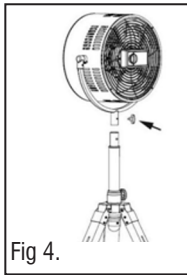

Fig 4.
3.2.2.1. Remove the locking knob from the pipe beneath the U-holder as shown in Fig.4.